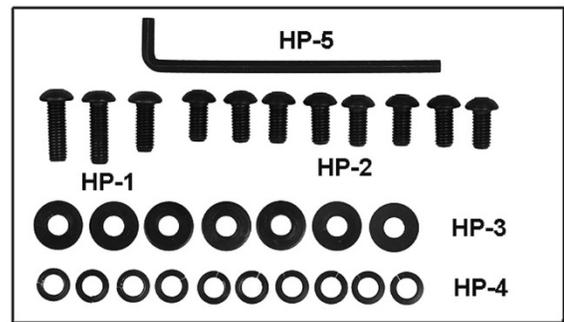

Figure 3a
- Hardware for PM1800B/BT/B-3/B-3T & 2013B/BT/B-3/B-3T (Figure 3a):